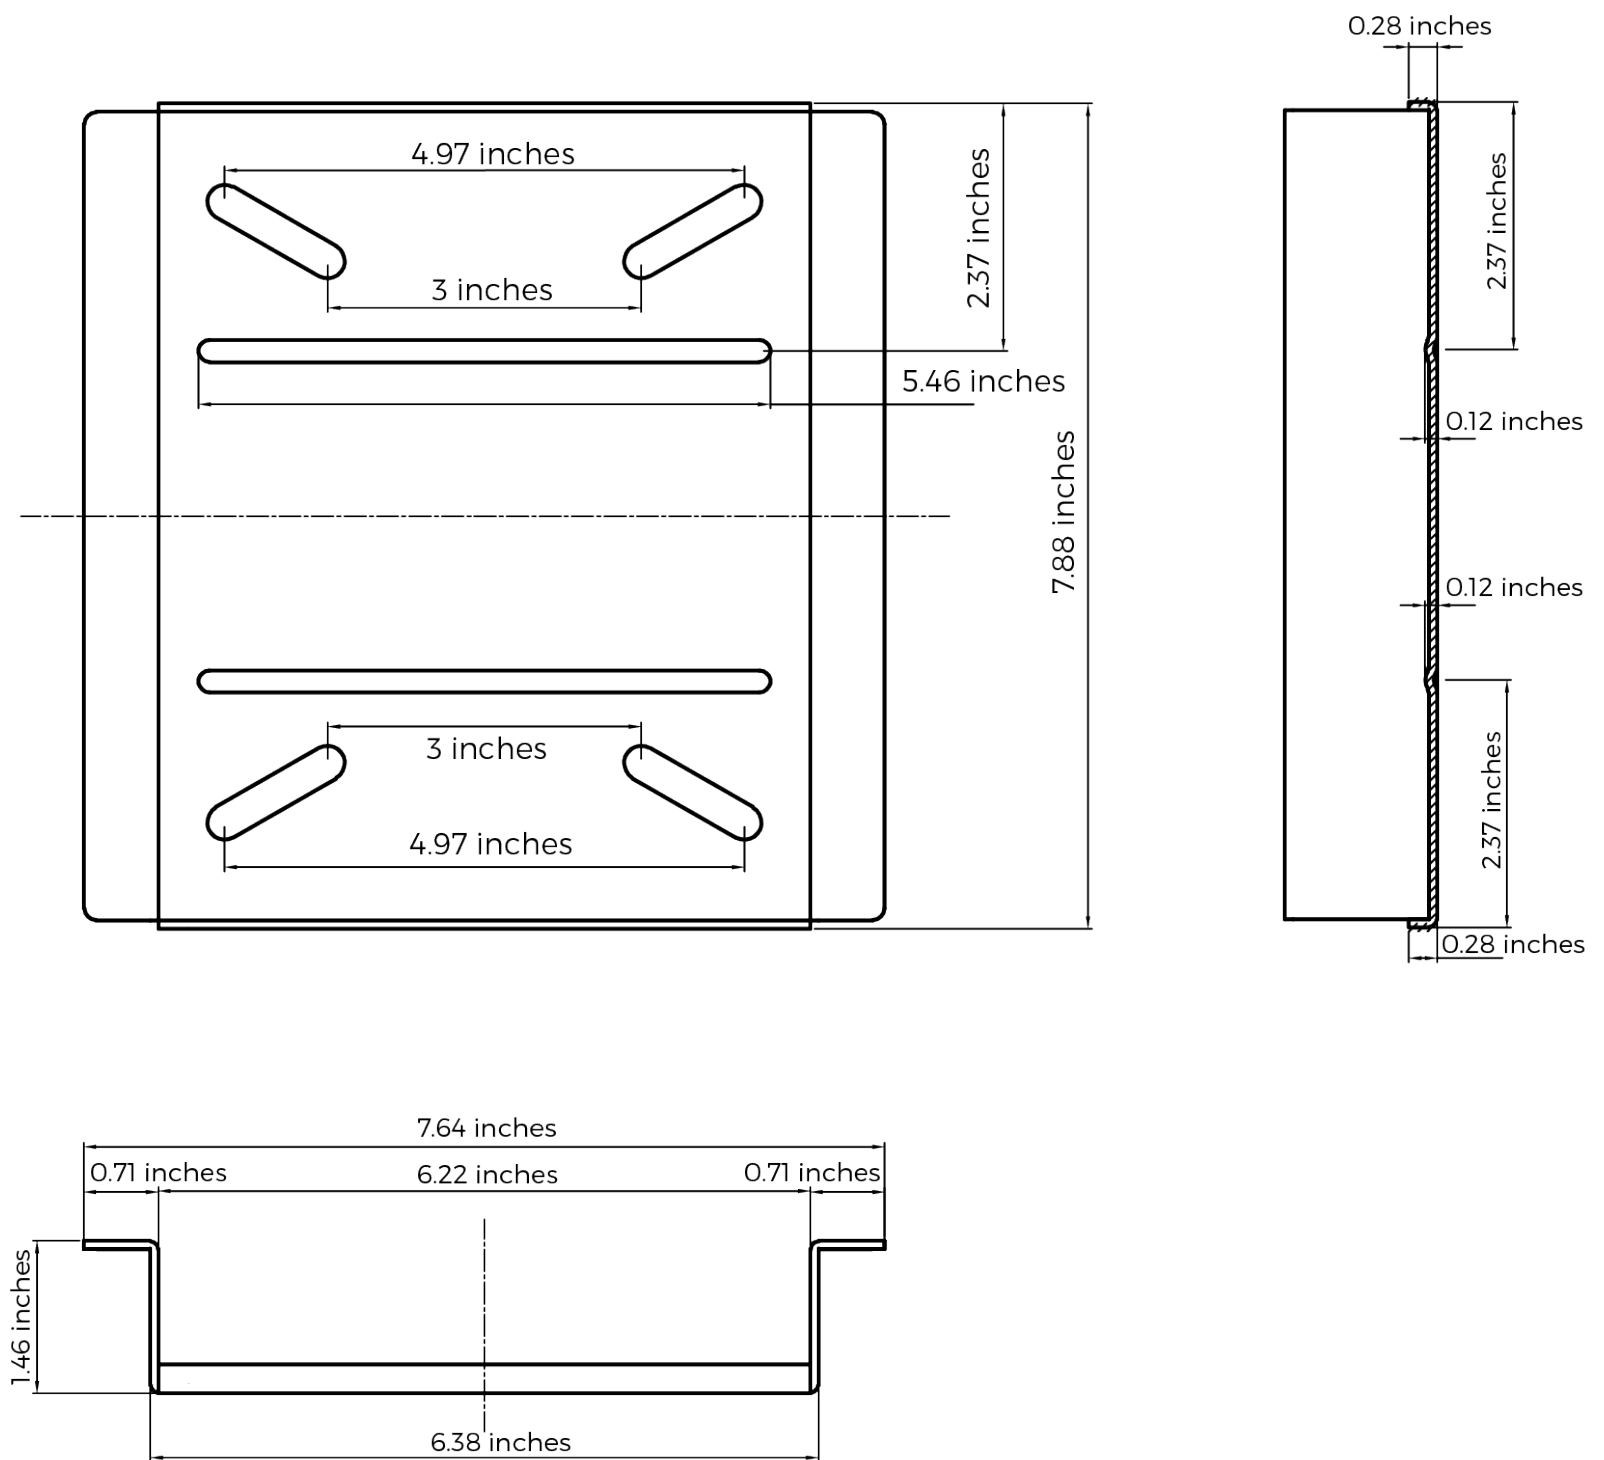

Figure 1: Wall Base Dimensions
1. Chosen a location for your pressure hose reel, follow the figure 1 of the wall base template to mark the location of 4 holes for drilling, or place the wall base itself up to the wall to mark the location of the screw holes for drilling.